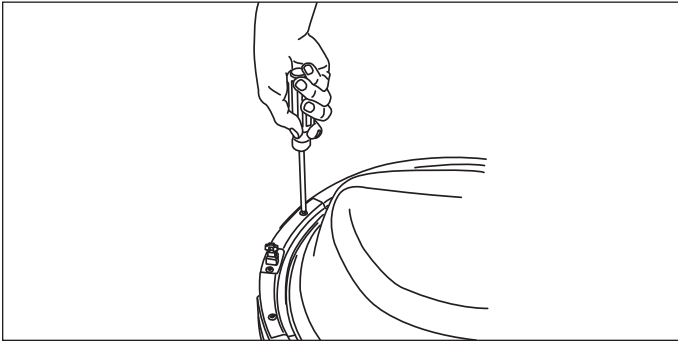

Figure 2-33.
1. Remove 2 long, coarse-thread, counter-sunk screws and striker plate. (See Figure 2-33)